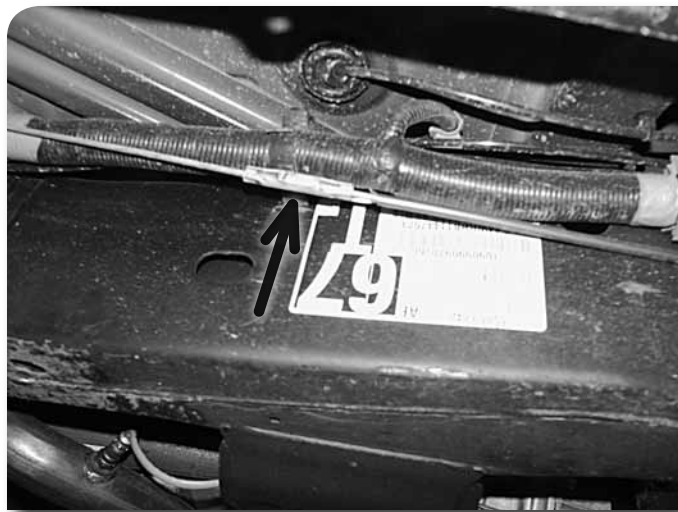

Figure 15
26. Disconnect the emergency brake cable located below the driver's seat Figure 15.